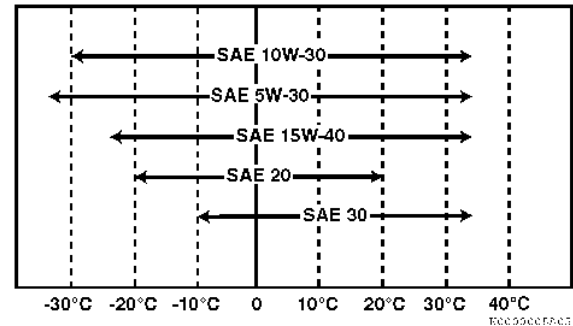

Figure 48
- *Select the oil viscosity based on the ambient temperature where the engine is being operated. See the SAE Service Grade Viscosity Chart (Figure 48).*
Select the appropriate engine oil viscosity based on the ambient temperature using the SAE Service Grade Viscosity Chart in (Figure 48).